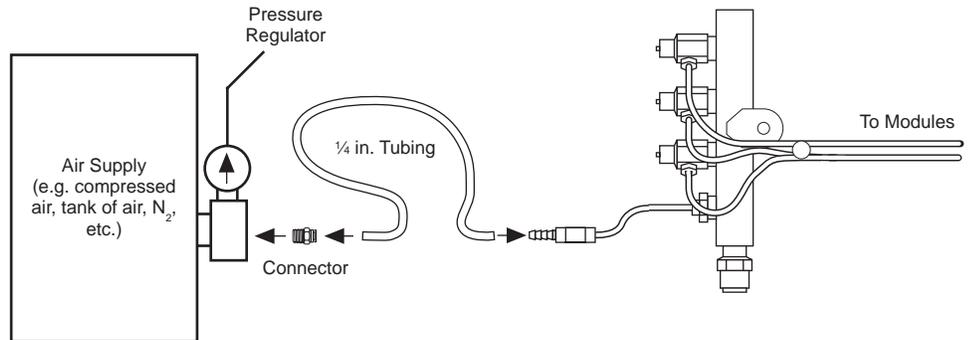

Figure 5
- a. Connect the air distribution manifold to a **regulated** air supply (see Warning above) as shown in Figure 5.\*